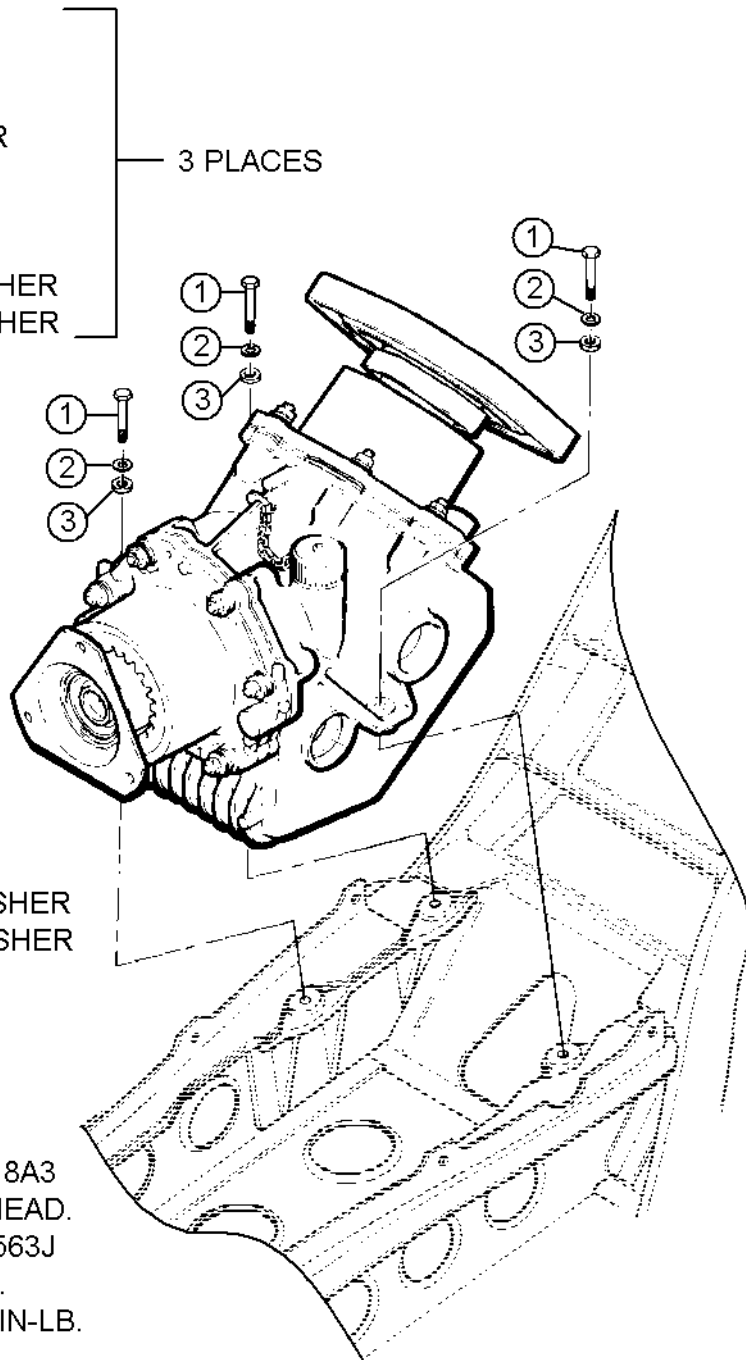

FIGURE 1
1. During installation of the intermediate gearbox assembly, replace existing hardware with new hardware as noted on Figure 1.
- a. Insert bolt (1) with washer (2) under bolt head and washer (3) next to case through mounting lugs of gearbox into nut plates in tailboom.